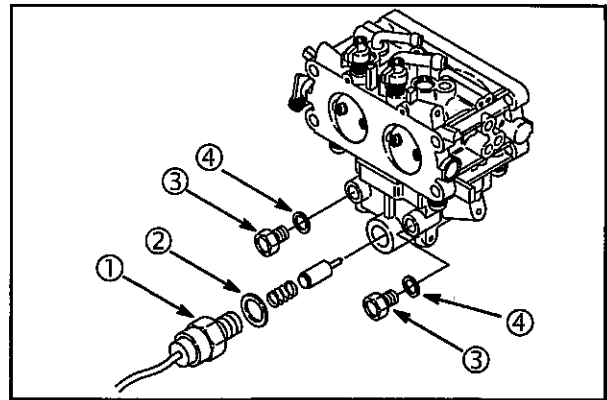

Fig. 60
1. Remove anti-afterfire solenoid (1) with washer (2), Fig. 60.
2. Remove fixed main jet plugs (3) with washers (4).